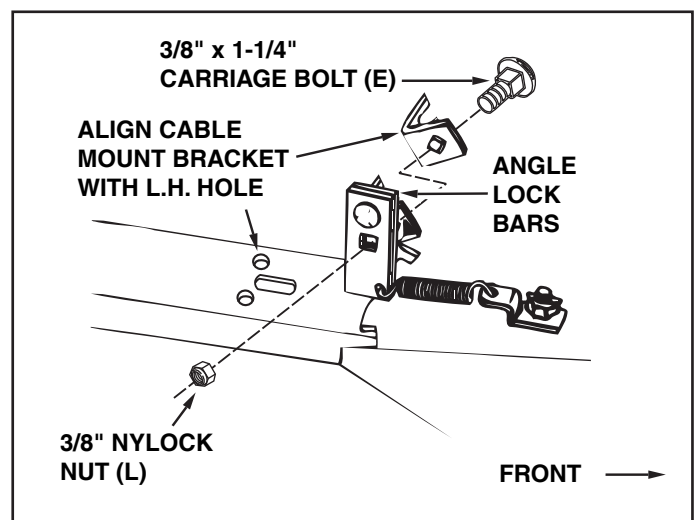

FIGURE 18 (Right Hand Side View)
STEP 4: (SEE FIGURE 18)
- From the left side, insert the welded end of the lift handle rod through the hole in the end of the channel assembly (Figure 18). Next, insert the lift link pin through the hole in the bracket that is welded to the lift handle rod. (The lift link is pre-assembled to the pivot support bracket). Secure the bracket with a hairpin cotter (O) inserted up through the lift link pin.